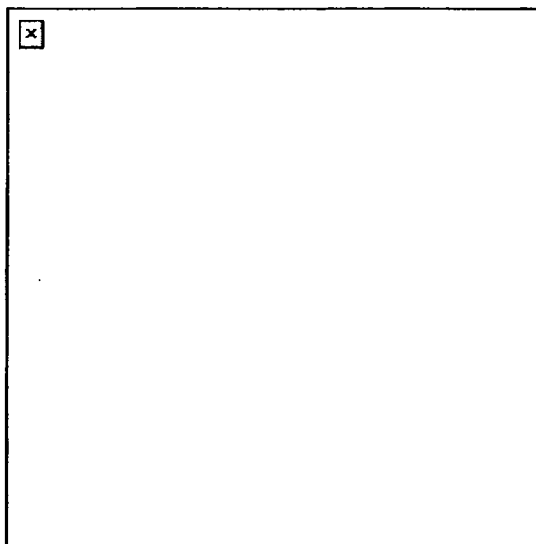

Figure 7. Attachment of T&E assembly to gun mount.
4. Attach the T&E assembly to the gun mount (Figure 7).